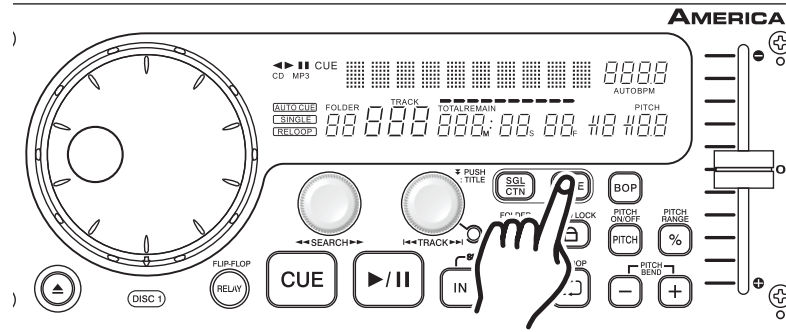

Figure 21
12. CHANGING THE TIME DISPLAY (49, 50, & 51)\TIME BAR (47):
DURING NORMAL PLAYBACK, pressing the *TIME BUTTON* (8), will change the time display information (49, 50, 51, & 47) in the *VFD* (2) see figure 21. The following is a break down of the time settings and their definitions:
- 2) **REMAIN** (48) - This describes the time in the VFD (49, 50, & 51) as the current TRACKS remaining running time.
- 3) **TOTAL REMAIN** (52) - This describes the time in the VFD (49, 50, & 51) as the disc total remaining running time. **NOTE: TOTAL REMAIN can only be seen or used when an actual cd is loaded, it does not work with a Mp3 cd.**